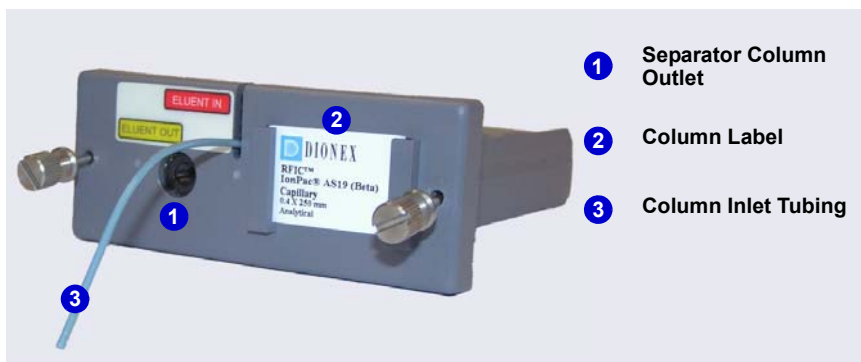

Figure 9-49. Column Cartridge Closed
9. Before installing the new separator column, tear off the column label and slide it into the holder on the front of the cartridge (see Figure 9-49).
15. Close the lid (you should hear a click) and route the tubing into the slot on the front of the column cartridge (see Figure 9-49).